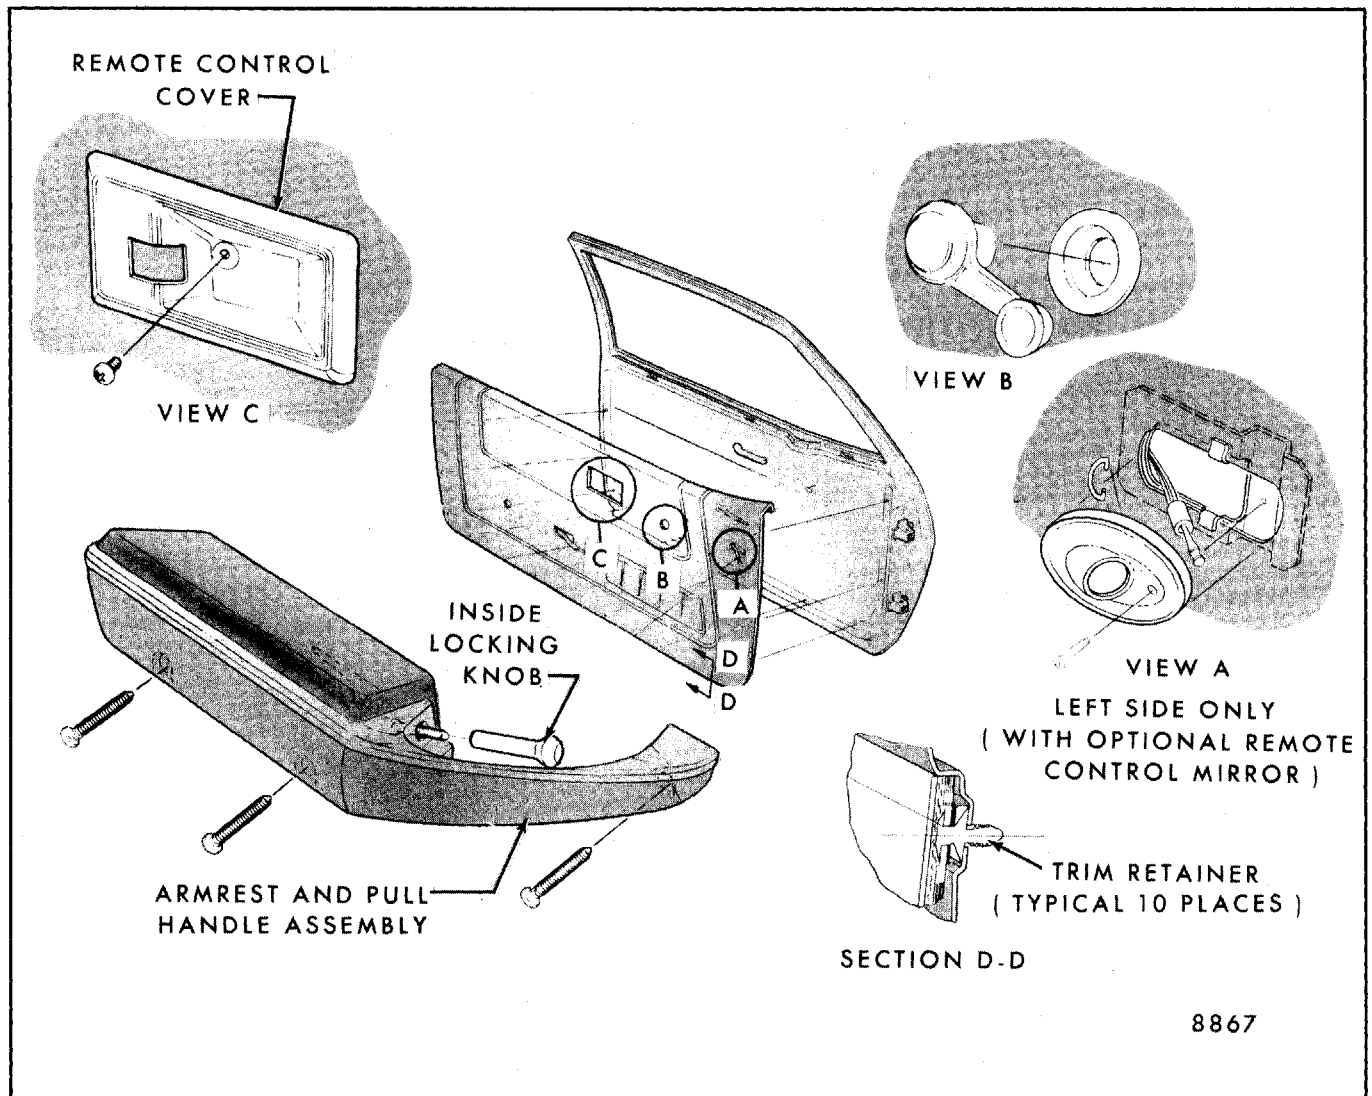
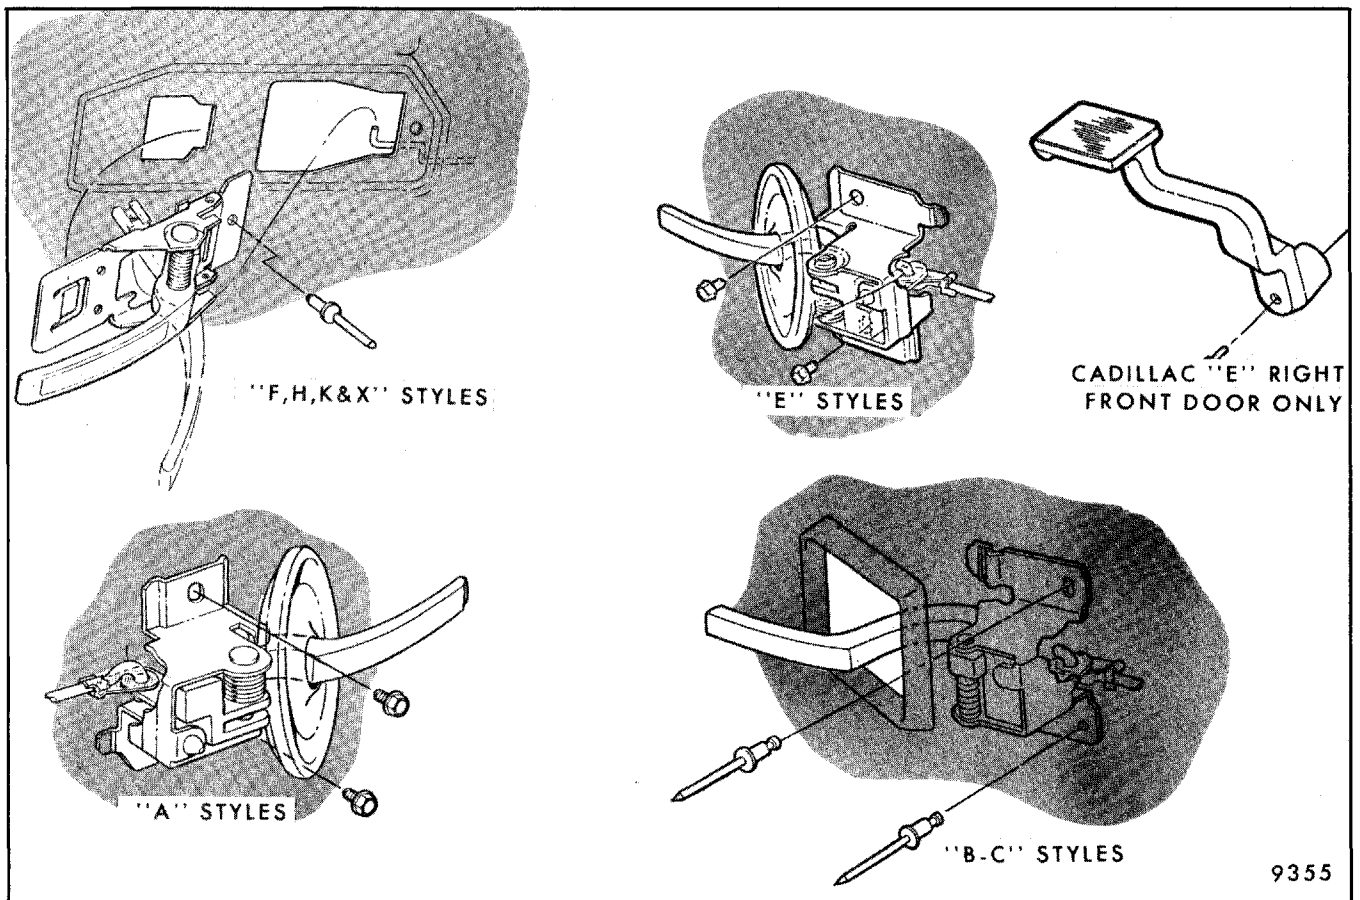
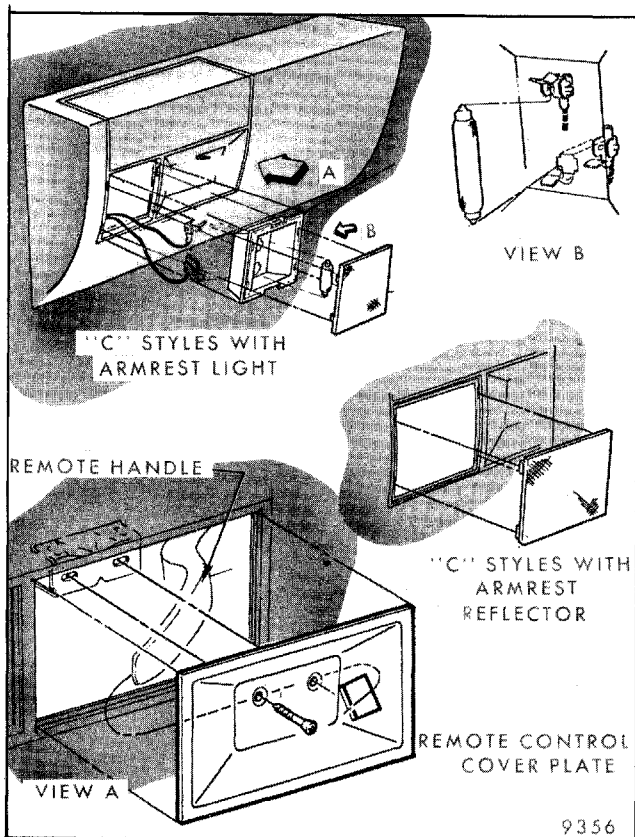

Fig. 5-7-Door Armrest and Pull Handle - Typical Attachment for F, H and X Styles
Fig. 5-15-Typical Door Lock Remote Control Handle and Cover Plate Installations
Fig. 5-17-Typical Remote Control Handle Cover Plate and Courtesy Lamp - C Styles
Door inside handles are retained by either screws, pop rivets or spring clips (Figs. 5-15 and 5-16). On styles equipped with screw or rivet retained handles, the screws or rivets are covered by a remote control handle cover plate that can be removed as shown in Figures 5-7 and 5-17.
On all styles with one-piece trim except H-15 and 77 styles, the one-piece trim hangs over the door inner panel across the top and is secured by clips down the sides, and across the bottom. (Figs. 5-7, 5-8 and 5-23 illustrate the various types of door trim panel fasteners).
6. Remove remote control cover plates (Figs. 5-7 and 5-17) and remove exposed screws securing cover plate to door inner panel.
7. On styles with integral armrest, remove screws inserted through pull cup into armrest hanger support (Sec. D-D, Fig. 5-24). On C styles and Buick 4BZ37 style, remove attaching screws behind armrest deflector or courtesy lamp and remote control cover plate (Figs. 5-17 and 5-25). On styles with armrest applied after door trim installation (Figs. 5-7 and 5-8), remove armrest to door inner panel attaching screws.
NOTE: On styles with courtesy lamps or reading lamps located in trim assembly, disconnect wire harness at lamp assembly (Figs. 5-17 and 5-25).
9. On styles with one-piece trim assemblies, remove all clips around perimeter of door trim pad using tool BT-7323 or equivalent (Figs. 5-7, 5-8 and 5-23).